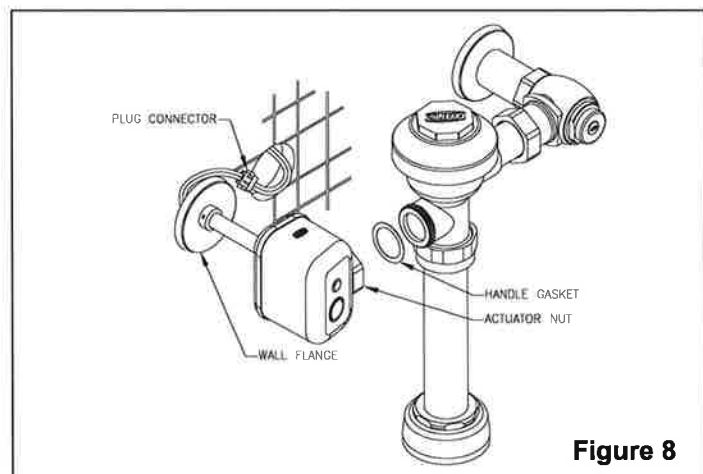

Figure 8
STEP 8 - Actuator Installation (Figure 8)
STEP 9 - Flush Out Supply Line (Figure 8)